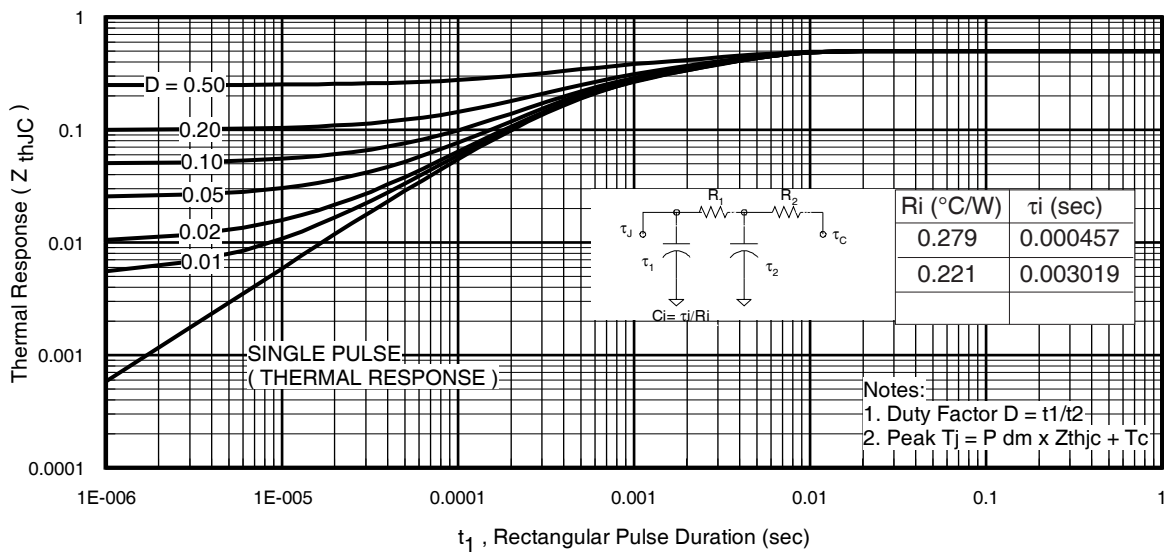
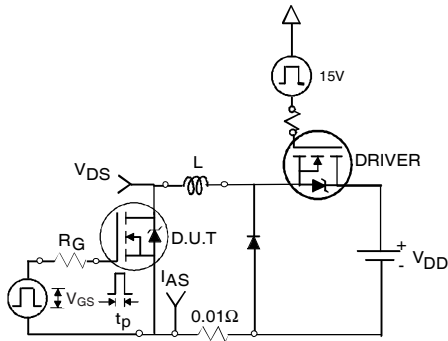

Fig 11. Maximum Effective Transient Thermal Impedance, Junction-to-Case
Fig 12a. Unclamped Inductive Test Circuit
- ① Repetitive rating; pulse width limited by max. junction temperature. (See fig. 11).
- ② Limited by T_{Jmax} , starting $T_J = 25^\circ\text{C}$, $L = 0.095\text{mH}$, $R_G = 25\Omega$, $I_{AS} = 75A$, $V_{GS} = 10V$. Part not recommended for use above this value.
- ③ $I_{SD} \leq 75A$, $di/dt \leq 340A/\mu s$, $V_{DD} \leq V_{(BR)DSS}$, $T_J \leq 175^\circ\text{C}$.
- ④ Pulse width $\leq 1.0\text{ms}$; duty cycle $\leq 2\%$.
- ⑤ $C_{oss\ eff.}$ is a fixed capacitance that gives the same charging time as C_{oss} while V_{DS} is rising from 0 to 80% V_{DSS} .
- ⑥ Limited by T_{Jmax} , see Fig.12a, 12b, 15, 16 for typical repetitive avalanche performance.
- ⑦ This value determined from sample failure population. 100% tested to this value in production.
- ⑧ This is applied to D²Pak, when mounted on 1" square PCB (FR-4 or G-10 Material). For recommended footprint and soldering techniques refer to application note #AN-994.
- ⑨ R_θ is measured at T_J of approximately 90°C .
- ⑩ TO-220 device will have an R_{th} of 0.45°C/W .
3. Equation below based on circuit and waveforms shown in Figures 12a, 12b.
$Z_{thJC}(D, t_{av})$ = Transient thermal resistance, see figure 11)